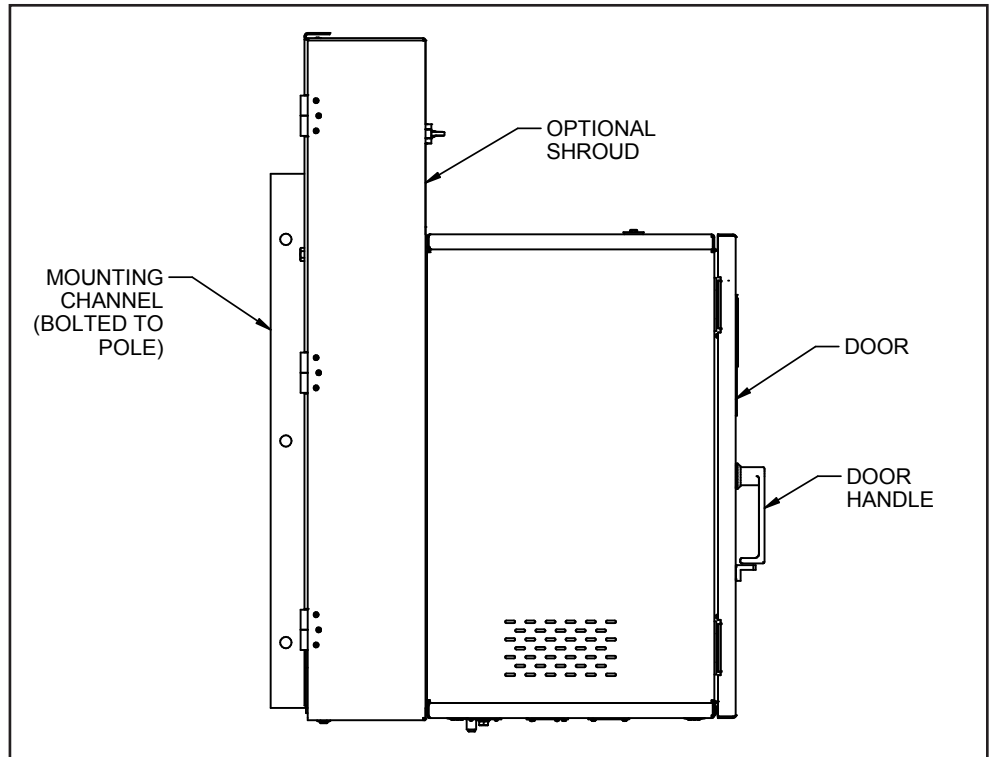

Figure 21. The side view of reciprocating switch operator showing the optional protective shroud at the rear.
- (a) Open the operating mechanism shroud, if installed (see Figure 21 on page 41). Attach the manual operating handle (see Figure 22 on page 41), and rotate the output crank upward until the switch is firmly closed. This should require an output crank movement of approximately 90 degrees, moving from 45 to 50 degrees below horizontal to approximately 45 degrees above horizontal. The switch operating lever at the top of the control rod should move in parallel with the output crank on the switch operator.